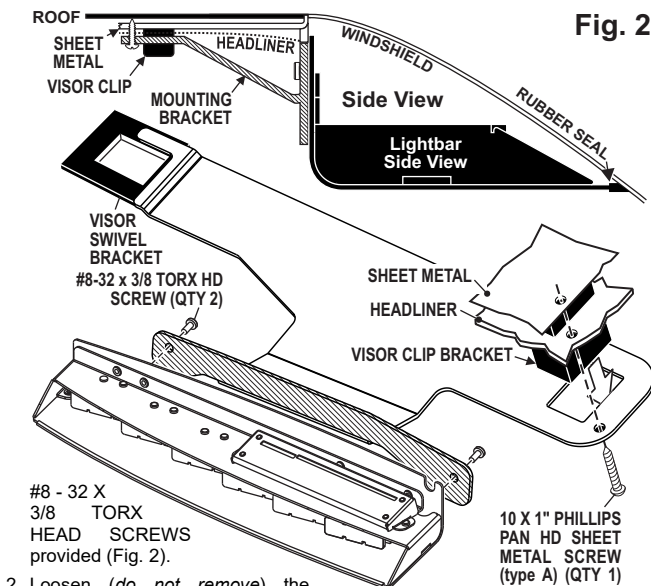
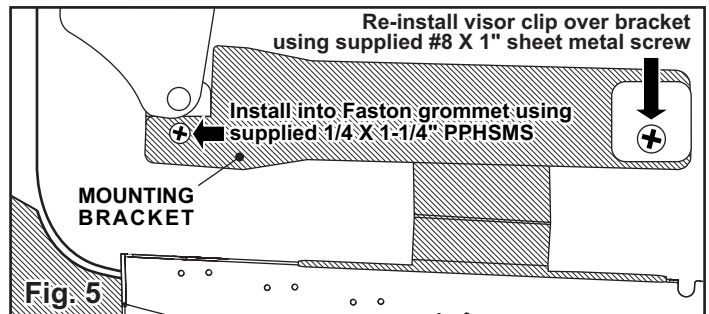

**Fig. 1**
**Fig. 3**
3. Secure mounting bracket to Inner Edge housing using hardware provided (Fig. 1).
4. Position the keyed opening of the mounting bracket directly under the location of the visor clip removed in step 2 and remount the visor clip in its original location using the original hardware (See Spacer installation in Fig. 1).
Figures 1 thru 3 show the driver side of the interior, looking up at the roof.
1. On the driver side visor swivel bracket, carefully pry the plastic cover off of the front of the bracket (Fig. 3). The lightbar mounting bracket will sit in the space that the cover occupied. **NOTE: Pry the cover off using two flat blade screwdrivers on each side to avoid braking the cover. The cover will not be used here but should be saved in case you wish to remove the lightbar in the future.**
2. Remove the swivel bracket mounting clip (located under the cover you removed in step 1) and lift the swivel bracket assembly out. Install the supplied fastex grommet into the hole in the roof sheet metal which the clip snapped into. Reinsert the swivel bracket assembly (Figs. 3 & 4).
3. On the vehicle visor clip, remove the screw holding on the clip (The supplied #8 X 1" sheet metal screw will replace this screw) and remove the clip. (Figs. 3 & 4).
4. Secure the mounting bracket to the lightbar and position the bracket where it will mount on the vehicle (Fig. 1 side view). **NOTE: The rubber seal should be in full contact with the windshield and the rear of the lightbar should be in contact with the roof to prevent light from entering the passenger compartment**
1. Remove the vehicle Visor Clips. The bracket will sit under these clips after mounting (Fig. 1).
Screw (Fig. 1). Loosely mount the bracket to the vehicle then pull the bracket as far back from the windshield as it goes (Fig. 3). With the bracket in place tighten the mounting hardware.